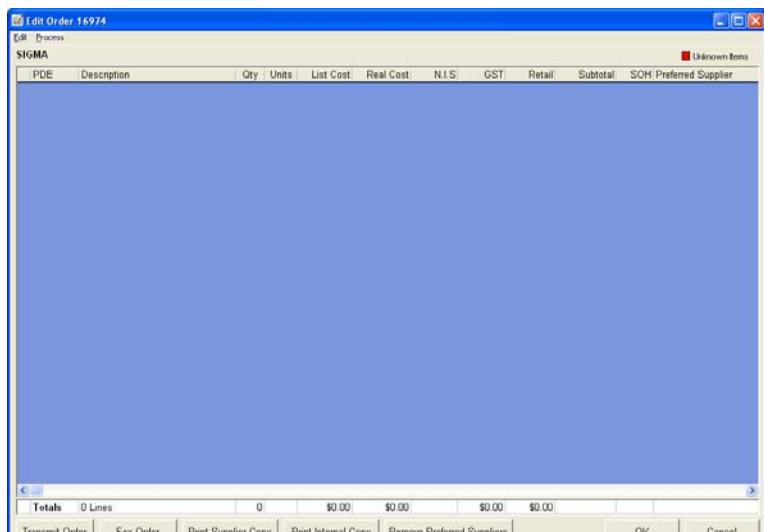

Figure 281
8. Your blank order will then display on the screen (as shown in Figure 281).